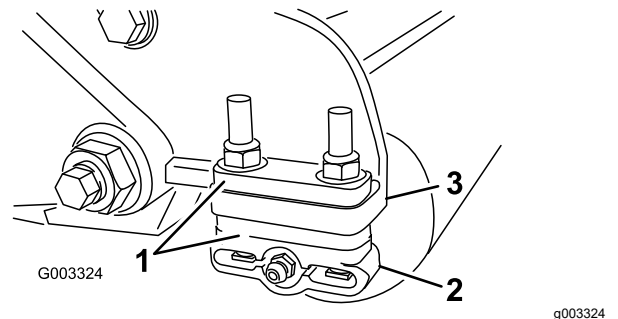

Figure 11
1. Adjust the rear roller brackets (Figure 11) to the desired height-of-cut range by positioning the required amount of spacers below the side-plate mounting flange (Figure 11) per the HOC Chart.